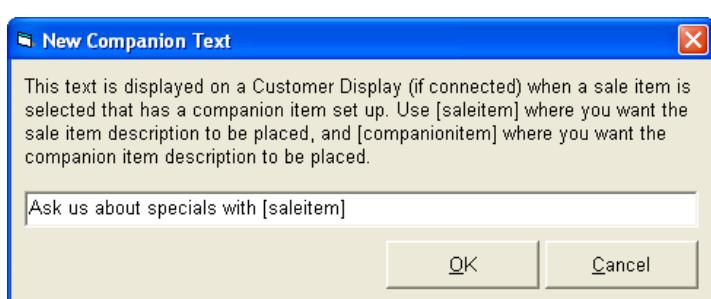

Figure 141
8. Use this window to enter in your companion text and select 'OK' (see Figure 141).